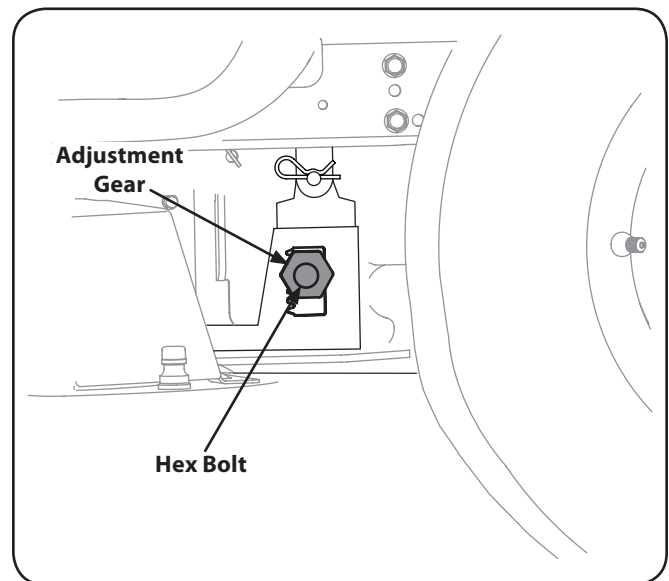

Figure 6-6
3. Loosen, but do NOT remove, the hex bolt on the front left deck hanger link. See Figure 6-6.
- Using a wrench, raise or lower the left side of the deck by turning the adjustment gears. See Figure 6-6.
- Loosen, but do NOT remove, the hex bolt on the left and right rear deck hanger brackets. See Figure 6-6.
- Using a wrench, raise or lower the left and right side of the deck by turning the adjustment gears. See Figure 6-6.